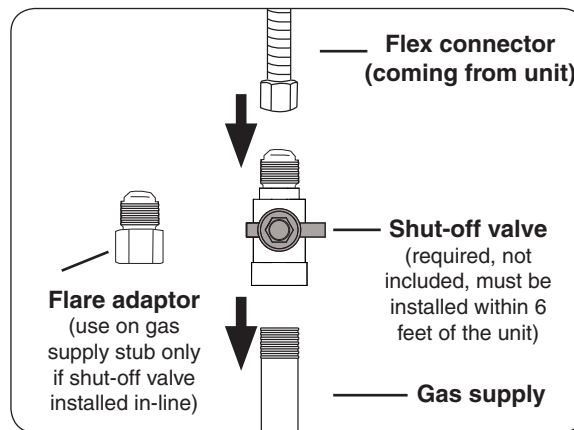

Fig. 20-1 Connecting to a gas line
- Connect the flex connector to the shut-off valve (see Fig. 20-1). Tighten securely.
- Install the supplied flare adaptor to the gas supply using a pipe joint compound resistant to all gasses (see Fig. 20-1). Tighten securely.
- Connect the flex connector to the flare adaptor (see Fig. 20-1). Tighten securely.